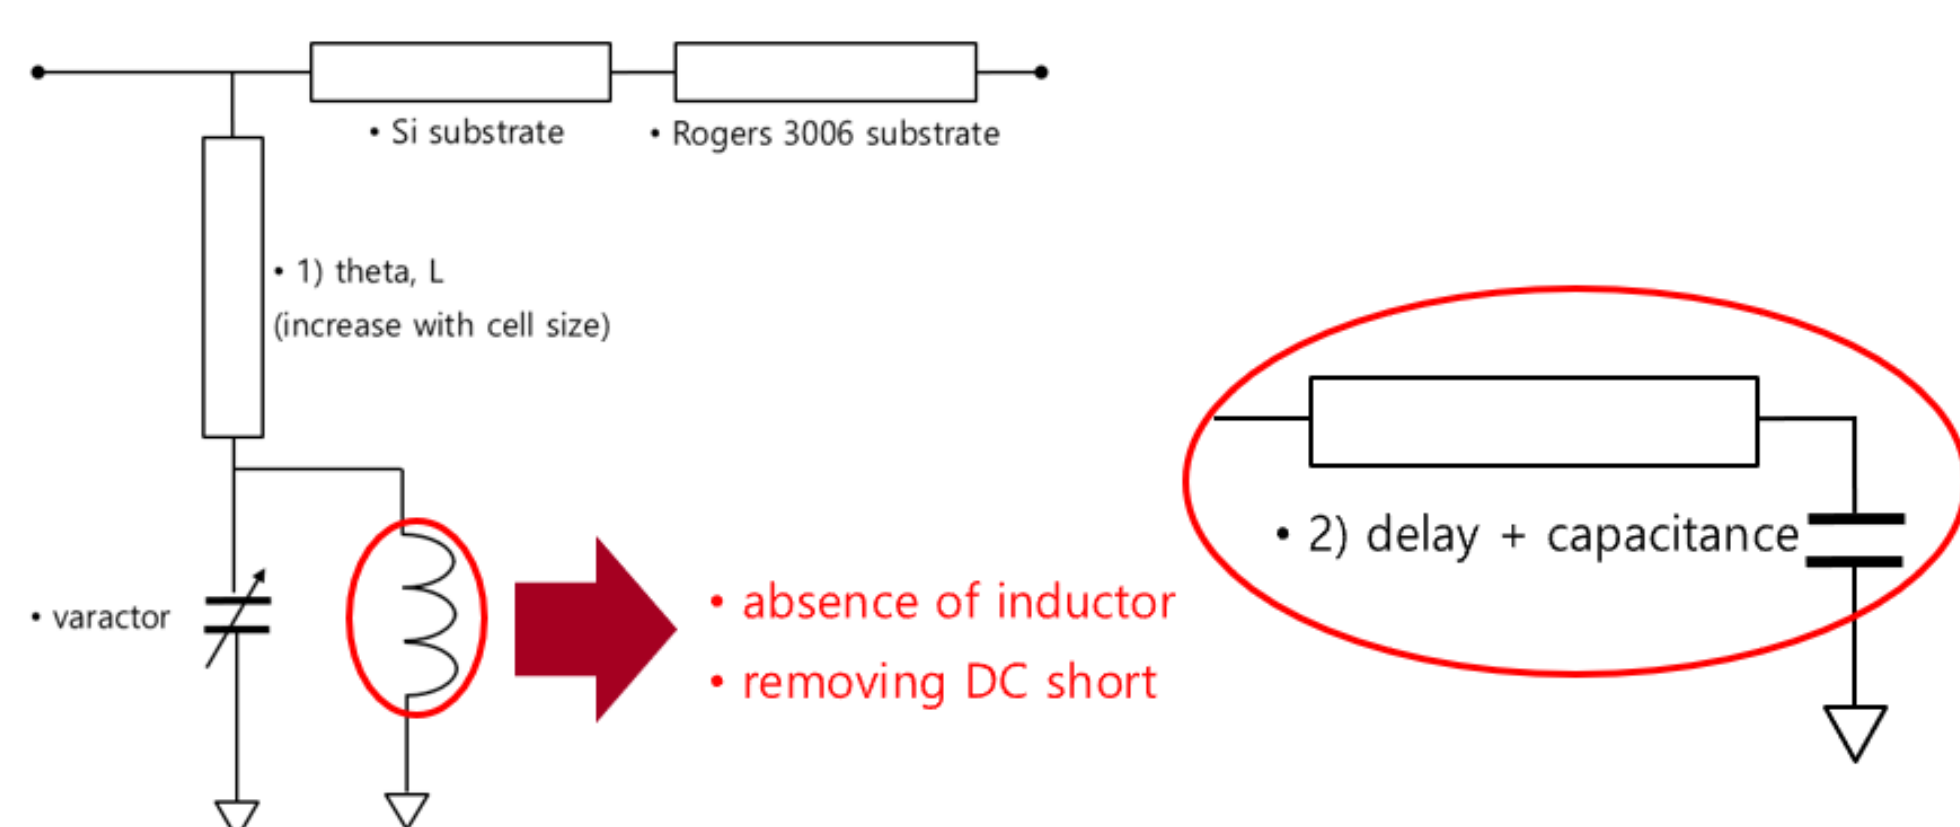

Fig 2. Schematic of unit-cell phase shifter
- To solve this problem, unit-cell is designed with parallel varactor and inductance. Unit-cell schematic is shown in Fig. 2. The parallel inductor can reduce the inductance of unit-cell structure, but this inductor can make DC short and is difficult to use because of its size. In this reason, delay line and series capacitor is used in this unit-cell design.